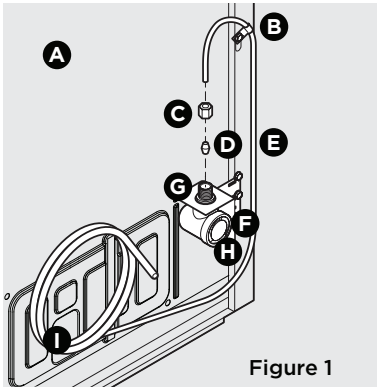
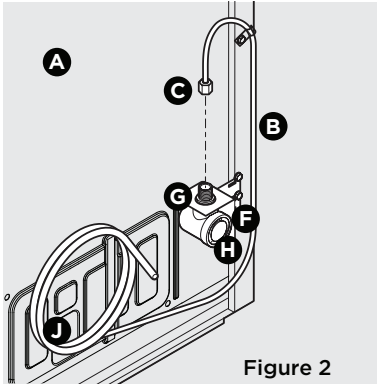

Figure 1
Figure 2
4. If you use **copper tubing** - Slide the brass compression nut and then the ferrule (sleeve) onto the water supply line. Push the water supply line into the water valve inlet as far as it will go (¼"/6.4 mm). Slide the ferrule (sleeve) into the valve inlet and finger tighten the compression nut onto the valve. Tighten another half turn with a wrench; DO NOT overtighten. See Figure 1.
If you use **braided flexible stainless steel tubing** - The nut is already assembled on the tubing. Slide the nut onto the valve inlet and finger tighten the nut onto valve. Tighten another half turn with a wrench; DO NOT overtighten. See Figure 2.
B	Steel Clamp (Fig. 1: 1/4"; Fig. 2: 1/2")